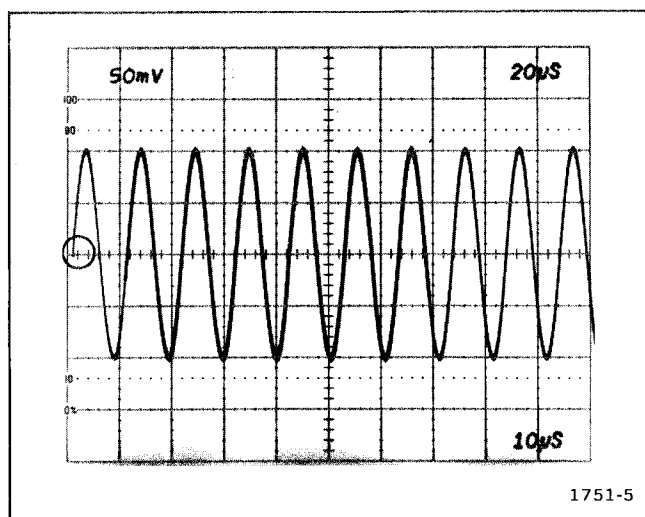

Fig. 5-5. DC balance. (Circle denotes correct trigger point).
- Adjust—Int DC Bal, R75, for a sweep trigger point at graticule centerline (TRIG'D light on). See Fig. 5-5 for reference.
- Adjust—Ext DC Bal, R99, for a sweep trigger point at graticule centerline (TRIG'D light on). See Fig. 5-5 for reference.
- f. Adjust—Int DC Bal, R255, for a sweep trigger point at graticule centerline (TRIG'D light on). See Fig. 5-5 for reference.
- b. Adjust—Ext DC Bal, R230, for a sweep trigger point at graticule centerline (TRIG'D light on). See Fig. 5-5 for reference.